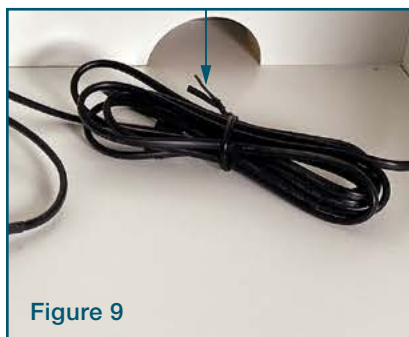

Figure 9
**06** Tether the excess cord on Extension Lead in the powered cabinet with the twist tie (see Figure 9).